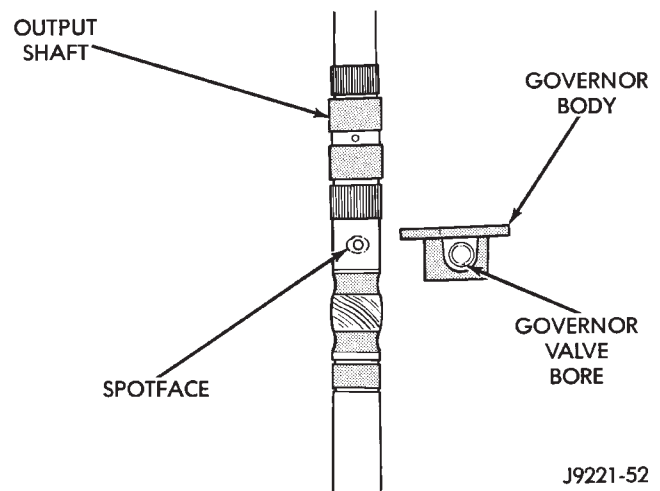

Fig. 136 Governor Valve And Output Shaft Spotface Alignment
- (1) Lubricate governor components and park gear seal rings with transmission fluid.
- (2) Install governor filter in park gear and install governor body on gear. Align governor body on gear using marks made at disassembly.
- (3) Install new seal rings on hub of park gear if necessary. Be sure ring (or rings) with hooked ends are properly connected.
- (4) Install governor weight assembly in governor body. Be sure governor weight snap rings are securely seated.
- (5) Align and install governor/park gear assembly on output shaft as follows:
- (a) **Note that output shaft in current transmission is spotfaced for governor valve end clearance (Fig. 136). Shaft must be indexed so that small end of governor valve will seat in this spotface. Install governor body and park gear as follows to ensure proper alignment and operation.**
(b) Rotate output shaft until spotface (at governor valve shaft hole) is facing upward (Fig. 136).